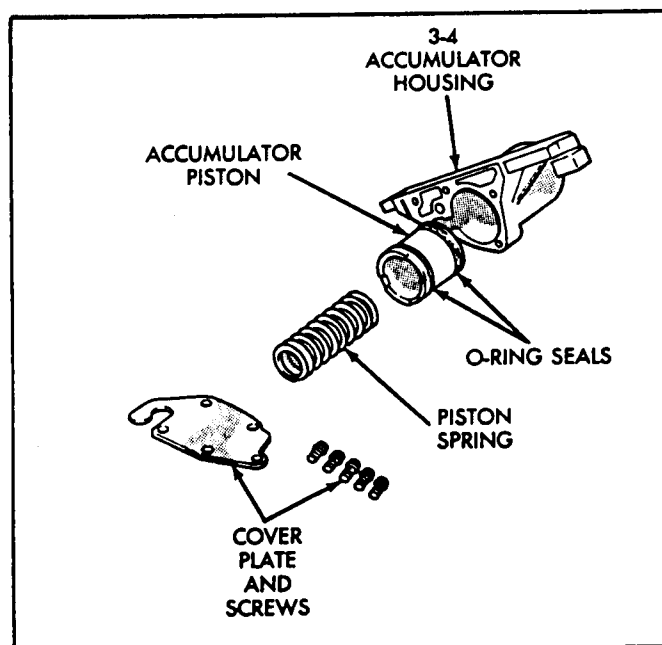

Figure 92
1. Install new seals on 3-4 accumulator piston, as shown in Figure 92.
2. Lubricate 3-4 accumulator bore in the 3-4 accumulator housing with Trans-Jel, lubricate piston seals, and install the piston into the housing (See Figure 92)
3. Install the 3-4 accumulator spring in the housing on top of piston as shown in Figure 92.
4. Install the cover plate and the five screws, as shown in Figure 92.